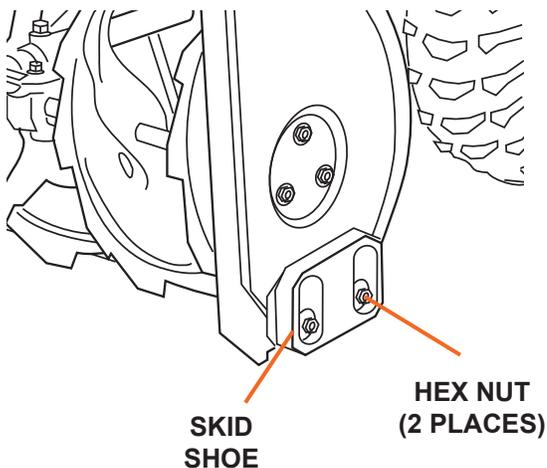

Figure 9
1. Position the skid shoes based on surface conditions. Adjust upward for hard-packed snow. Adjust downward when operating on gravel or crushed rock surfaces. Loosen the two hex nuts that retain the skid shoe in place and move up or down as desired, then retighten the lock nuts (see Figure 9). Repeat for the opposite side of the snow